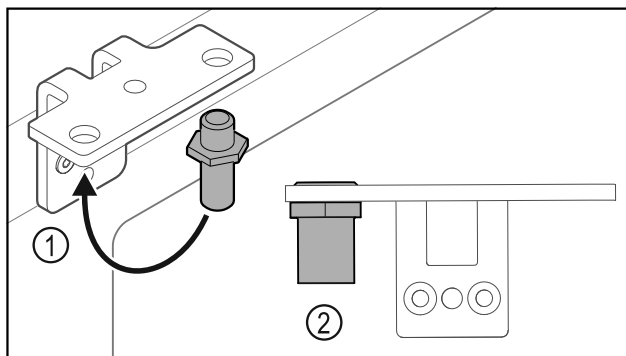

Fig. 26
- ▶ Put the pin back into the hinge Fig. 26 (1).
- ▶ Tighten the pin Fig. 26 (2) to a **torque of 12 Nm (9 ft-lb)**.